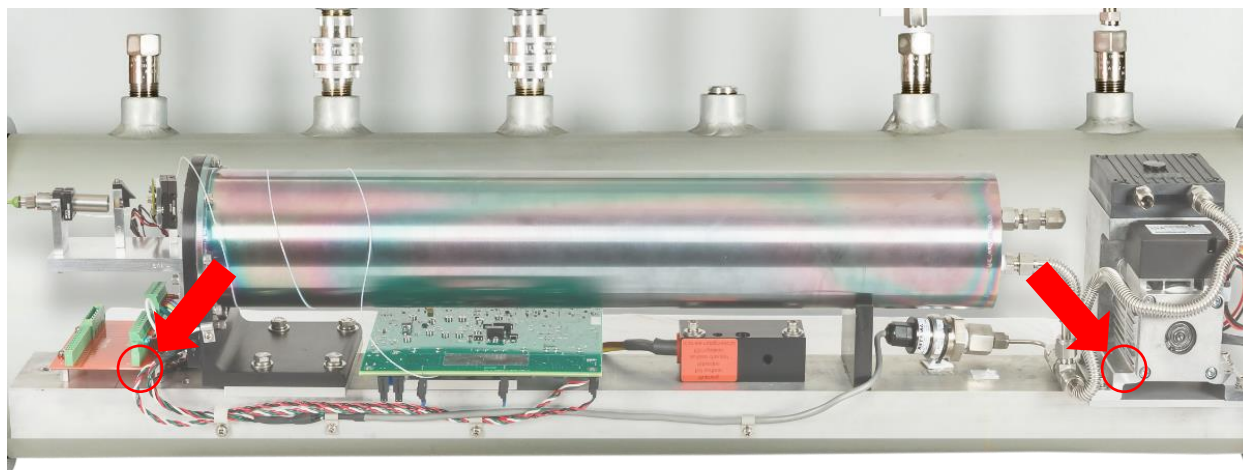

Figure 49: Location of Screws Holding Component Rail
5. With the end caps removed, locate the screws holding the component rail in place. See Figure 49.